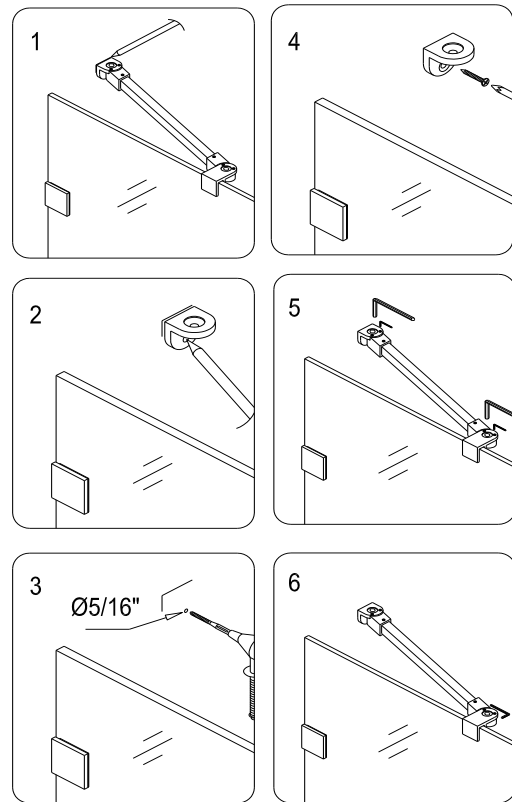

Fig. 4
6. Locate the **Support bar (04)** from the package and loosen the glass holding screws on the gliding channel. Place the **Support bar** with the channel end on the glass top edge and the bracket end flat on the wall. Adjust the bar to a proper position and level it horizontally. Hold it firmly and outline the bracket's position on the wall with a pencil. Take off the **Support bar** and remove the bracket from it. Place the bracket against its position on the wall and mark the position for the drill hole. Drill the hole, insert the anchor and attach the bracket onto the wall with **Screw ST 4.2x30 (09)**. Replace the **Support bar** with channel seated on the glass and the other end underneath the bracket. Attach it to the bracket with the set-screw provided by using **Allen Key (16)**. Straighten the bar and fasten both set-screws and the glass holding screw to secure the glass. See fig. 4. 5 for details.